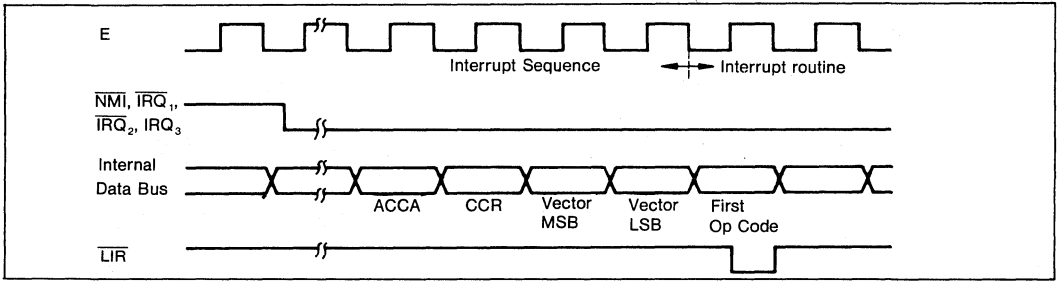

Figure III-10. First Cycle in Interrupt
z. First opcode fetch cycle in the interrupt routine (figure III-10).